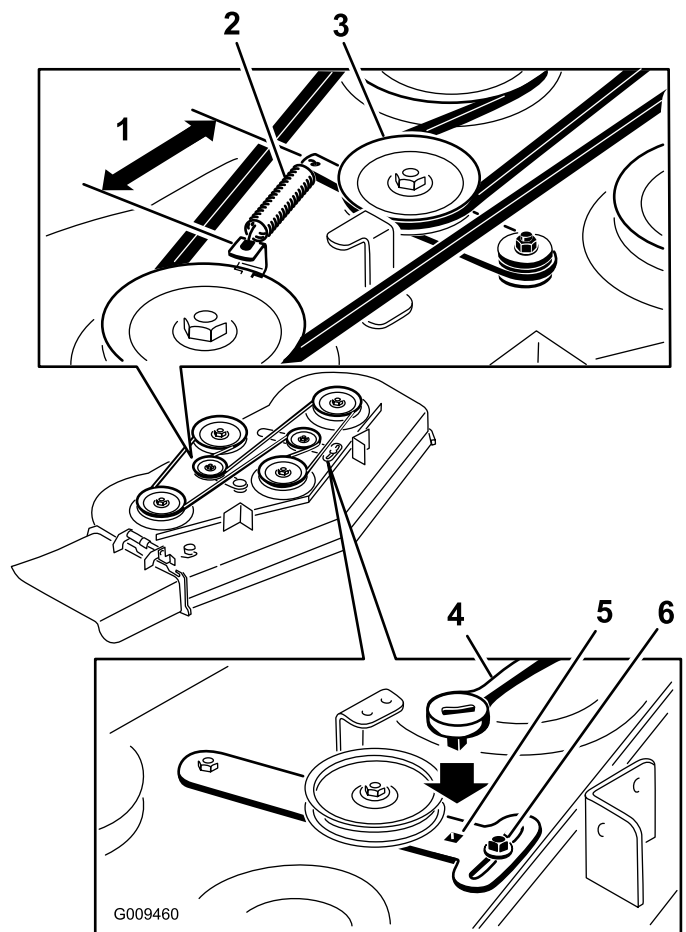

Figure 64
5. Remove the worn mower belt (Figure 64).
6. Install the new mower belt around the deck pulleys and clutch pulley (Figure 64).
7. Using a ratchet in the idler arm, tighten the idler pulley until the spring is stretched 5-3/4 inches (14.6 cm) from hook to hook (Figure 64).